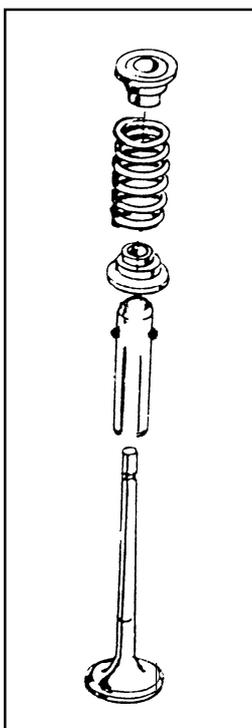

Fig.9-45
- Wipe and lightly lubricate the valve stem. Assemble valve in its original seat with valve spring and new stem seal and lock it in position as shown in Fig.9-45